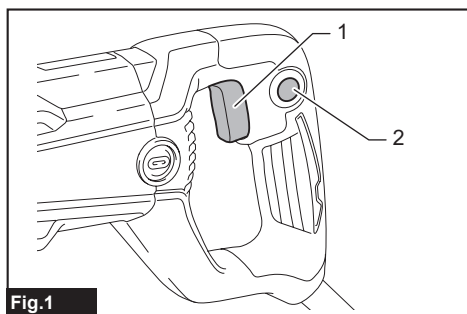

Fig.1
► **Fig.1:** 1. Switch trigger 2. Lock button (Country specific)